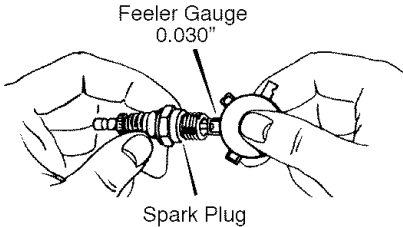

Figure 24
2. Check the **spark plug** gap with a **feeler gauge** and reset gap to 0.30" if necessary. See Figure 24.